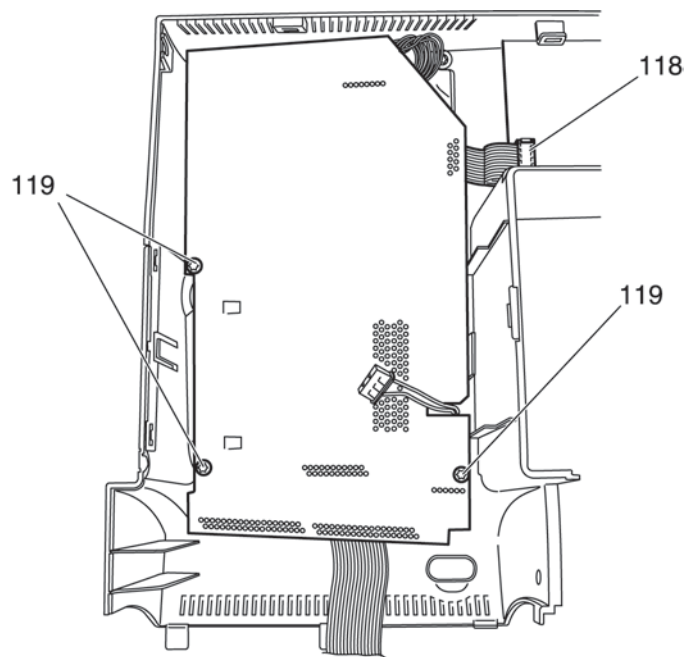

Fig. 32
- Disconnect plug 118 of the connection cable from the circuit board (fig. 32).
- Fit plug 120 of the connection cable (fig. 32).